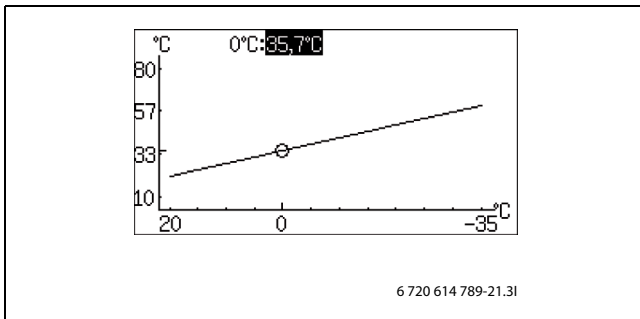

Fig. 27
- Turn the menu dial when the square is highlighted until 0 °C is marked (→ Fig. 27).